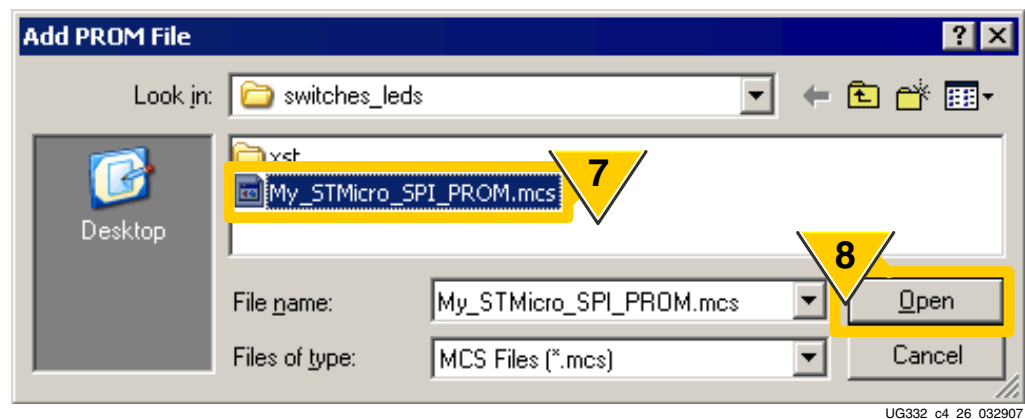

Figure 4-24: Select the SPI PROM Programming File
7. As shown in Figure 4-24, select the programming file for the attached SPI Flash PROM.